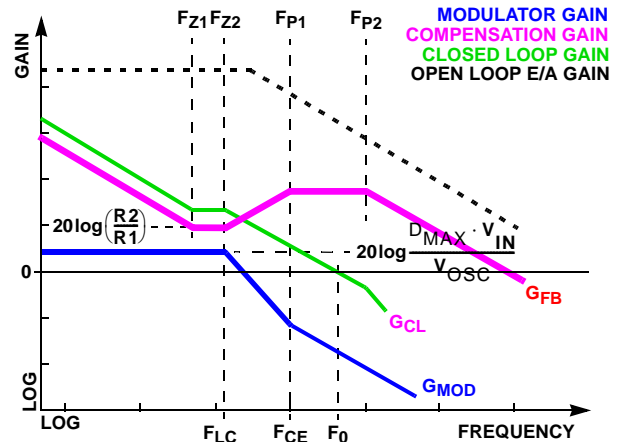

FIGURE 8. ASYMPTOTIC BODE PLOT OF CONVERTER GAIN
Figure 8 shows an asymptotic plot of the DC/DC converter's gain vs frequency. The actual Modulator Gain has a high gain peak dependent on the quality factor (Q) of the output filter, which is not shown. Using the previously mentioned guidelines should yield a compensation gain similar to the curve plotted. The open loop error amplifier gain bounds the compensation gain. Check the compensation gain at F_{P2} against the capabilities of the error amplifier. The closed loop gain, G_{CL} , is constructed on the log-log graph of Figure 8 by adding the modulator gain, G_{MOD} (in dB), to the feedback compensation gain, G_{FB} (in dB). This is equivalent to